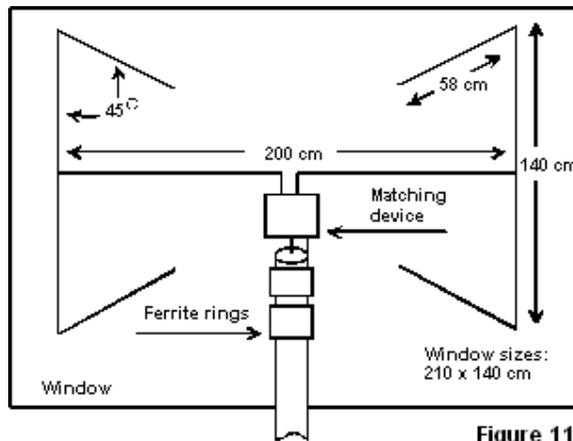
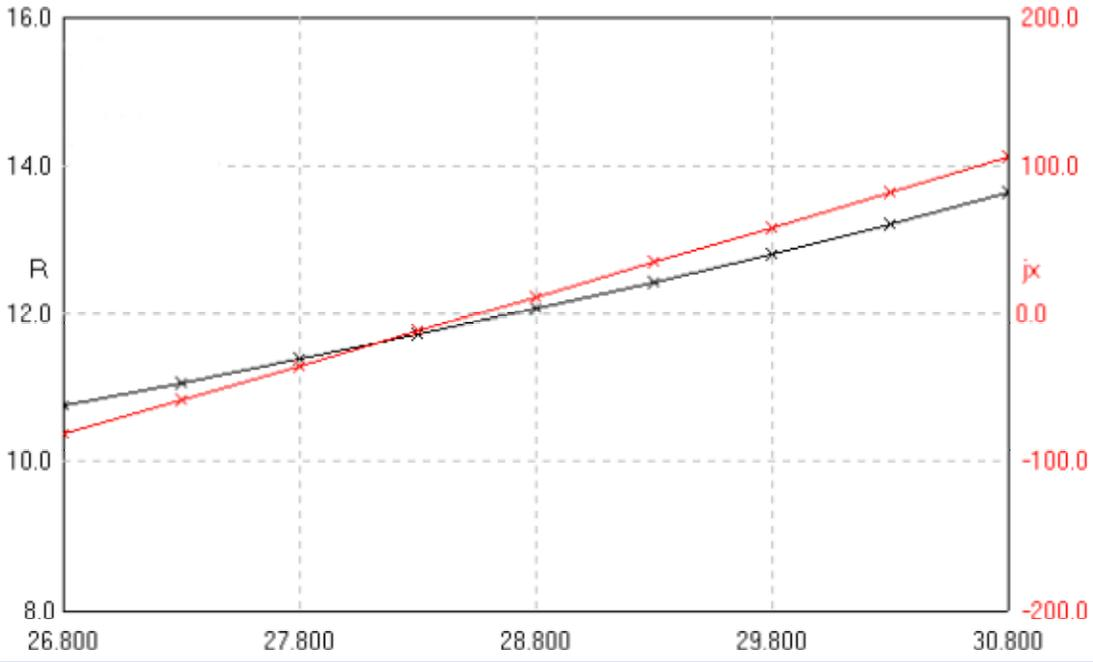

Figure 11 A window dipole antenna with capacitive loads of central installation
**Figure 15** SWR at 50- Ohm coaxial connected through a matching device (see **Figure 14**) to antenna shown at **Figure 11**
**Figure 11** shows schematic a window dipole antenna with capacitive loads of central installation. **Figure 12** shows schematic a window dipole antenna with capacitive loads of up or down installation. Antenna central installation can be installed at window 210-cm wide. Antenna up or down installation can be installed at window 150 or 210-cm wide.
Theoretical parameters of the antennas (copper, wire in 1-mm (18- AWG) diameter) were simulated with the help of MMANA. Figure 13 shows input impedance of the antenna shown in Figure 11. Theoretical input impedance of the antenna is 22- Ohms. Practically measured input impedance of the antenna was 30- Ohms. Losses in neighbor objects add the 8 Ohms. Theoretical gain for the antennas is near 1,5- 1,7 dBi.
**Figure 15** shows a SWR at 50- Ohm coaxial connected through a matching device (see **Figure 14**) to antenna shown at **Figure 11**. SWR was simulated by MMANA.